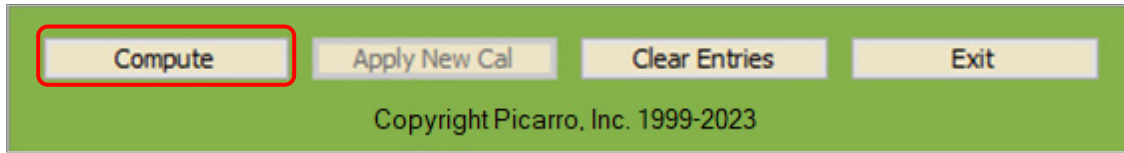

Figure 40: Action Selection Section of Data Recal Software Utility GUI
3. Action Selection section (Figure 40):